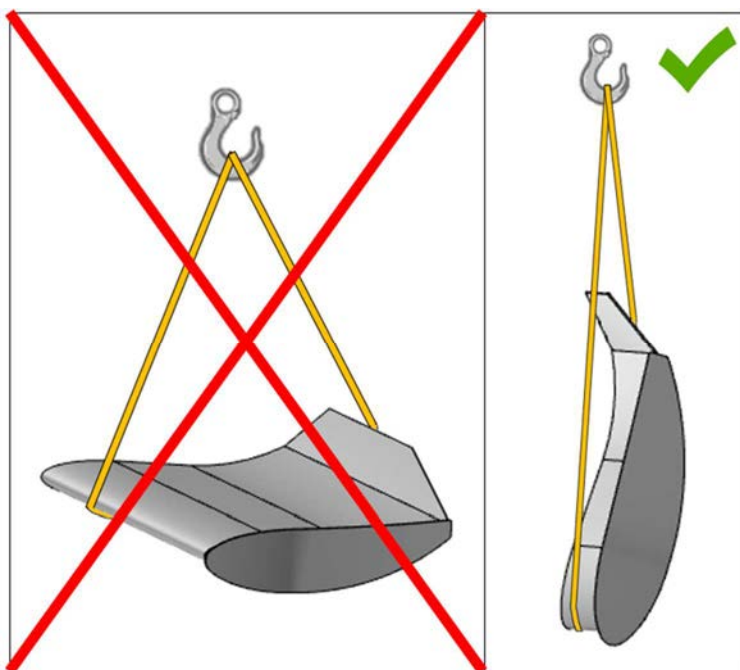

Figure 2.2: blade lift
- The blades must always be raised with the profile upright, as shown in Figure 2.2.